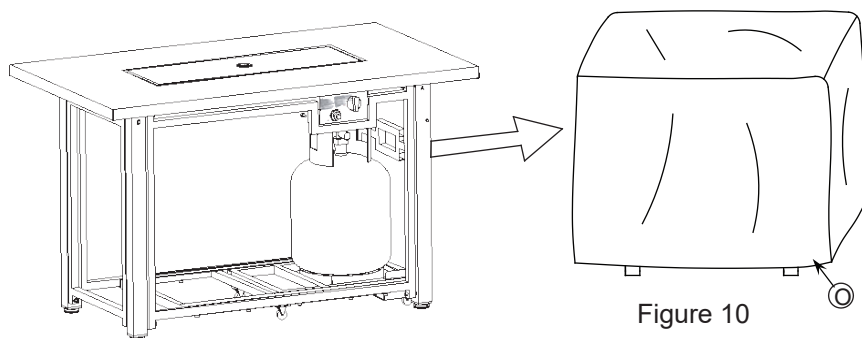

Figure 10
10. Secure the gas cylinder by tightening clockwise the butterfly screw found on the J, so that the gas cylinder cannot move from side to side or fall down. Close the I, cover the fire pit with the O when not in use to protect it from the elements or when fire pit is cool COMPLETELY after the use (see Figure 10).